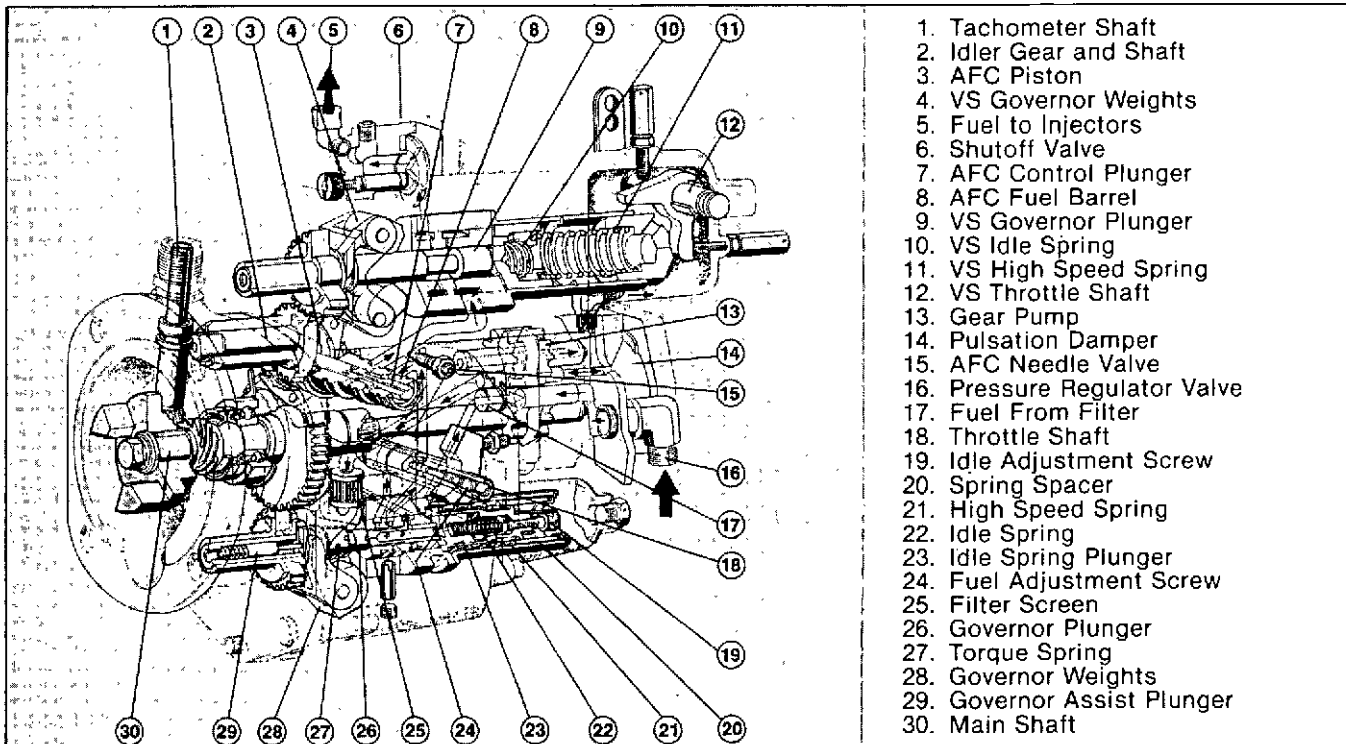

Fig. 10-27, (FWC-38). PT (type G) fuel pump with Variable Speed Governor and Air Fuel Control.
1. When the pump has only one lever, it is on the VS governor, Fig. 10-27.